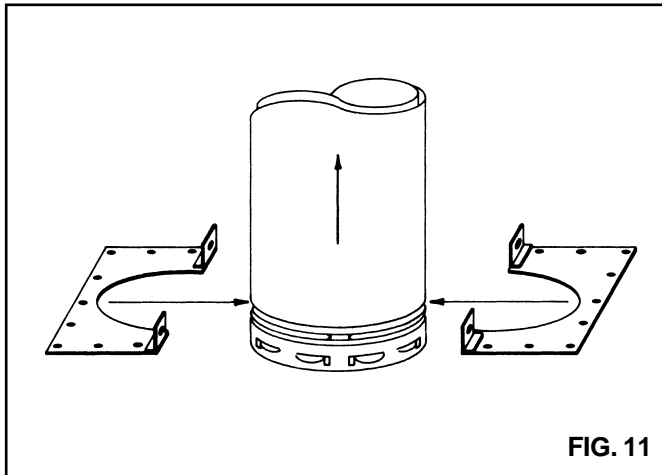

FIG. 11
3. Surround the Vent Pipe with the two identical Support Plate halves. (See **Fig. 11**.) Engage the plate edges in the uppermost pipe recess as described in **Step 2**. Use two pair of bolts and nuts to hold the plate halves together. (Four predrilled tabs are provided for this purpose.)